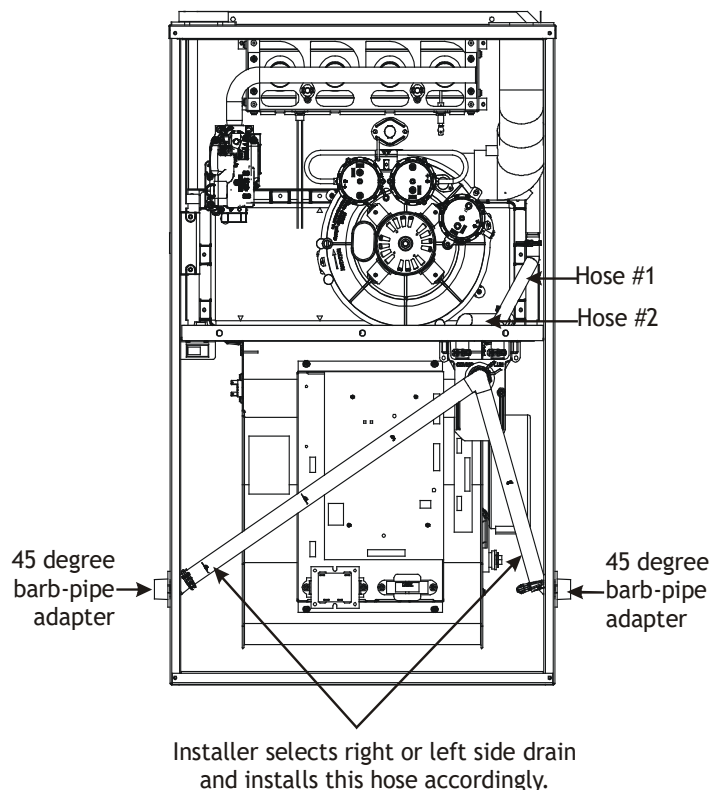

Figure 23
1. Locate and Install the 45° pipe / hose drain coupling from the outside of the cabinet (barbed end goes in the cabinet) through hole in the right side of the cabinet and secure with two field supplied #8 self-tapping screws (see Figure 23).
1. Install the 45 degree pipe / hose drain coupling from the outside of the cabinet (barbed end goes in the cabinet) through the hole in the left side of the cabinet and secure with two field supplied #8 self-tapping screws. (see Figure 23).